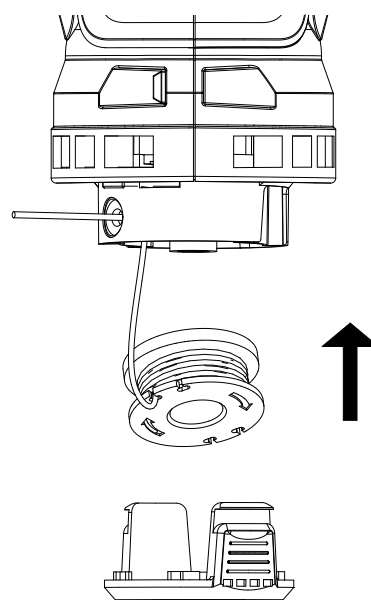

Fig. 10
6. Install the spool in the string head after inserting the line into the hole of the power head (Fig. 10).
7. Install the spool retainer by pressing the tabs into the slots and pushing down on the spool until the spool retainer clicks into place (Fig. 10).